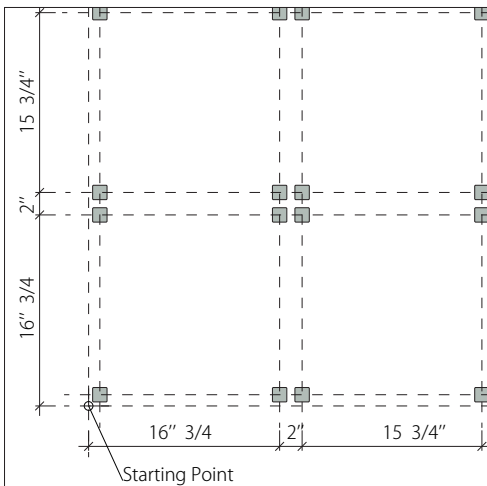

Fig. 2
1. From the starting point, measure  $16\frac{3}{4}$ ", and fix the next plate and work your way up. (See Fig. 2)